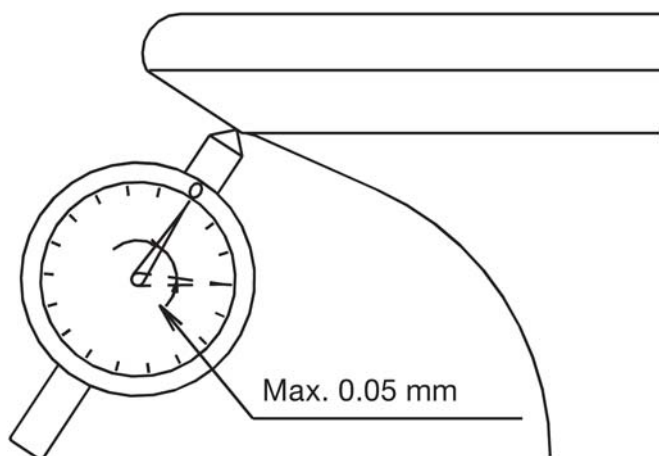

Figure 5: Truing-up the spindle
- Mount the spindle in the grinding machine and, using the dial-gauge positioned just inside the area of inner contact, (**see Fig. 5**), true-up to within a maximum of 0.05 mm. This is done in order to minimize the amount of material removed during grinding.